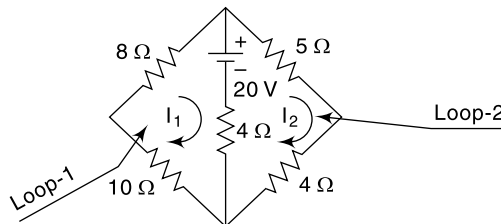

Fig. 4.45 Circuit of Ex. 4.30
4.30 Calculate the current supplied by the battery in Fig. 4.45 using loop current method. Applying KVL in loop-1